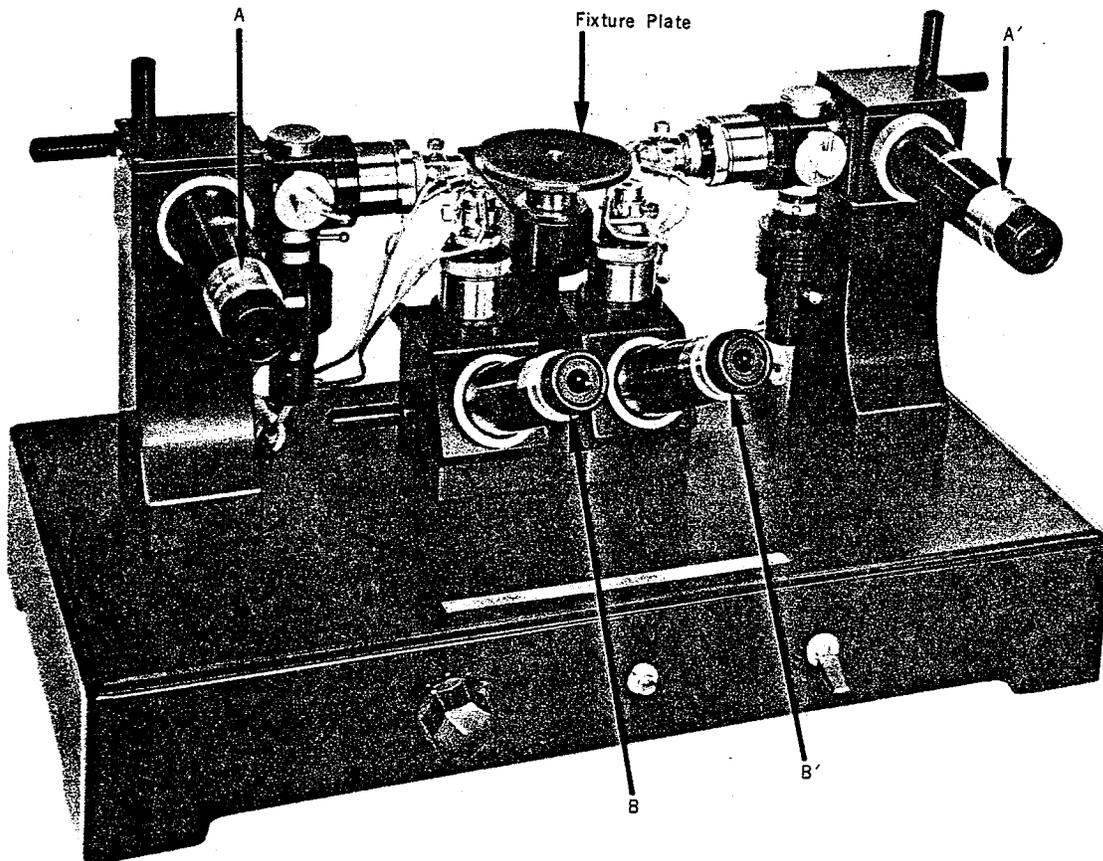
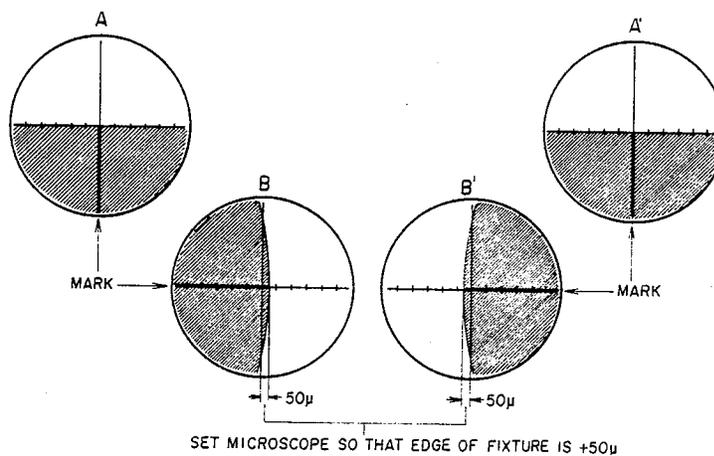

Fig. 1
Fig. 2 Microscopic Views of Fixture
- (a) As shown in Fig. 1, to adjust the position of the microscopes, with the prop positioned in the center of the microscopes, align the center line of the microscopes (microscopes attached to fixture plate) (A and A') with the mark on the fixture (ref. Fig. 2).